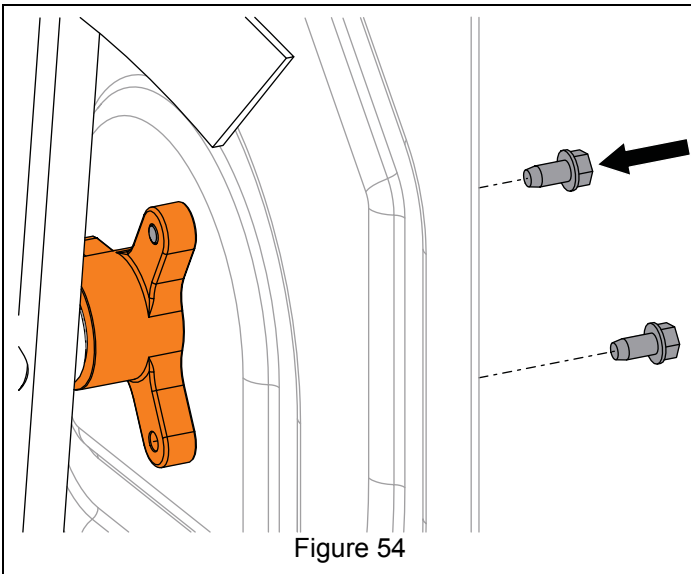

Figure 54
- Secure support bushings to auger housing with six tapping screws. See Figure 54.